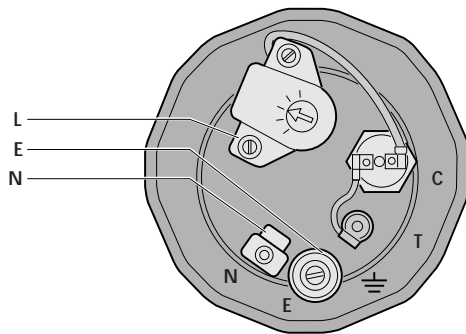

Fig. 13
Install a separate electrical supply to the immersion heater in accordance with the current IEE wiring regulations (BS 7671). The immersion heater must be wired in 2.5 mm² heat-resisting cable from a double pole isolating switch. The circuit must be protected by a 13 amp fuse. The connection details for the immersion heater are shown in fig. 13.
- Upon completion of the commissioning procedures, set the DHW thermostat knob on the VANTAGE to setting 5-6, approx. 60 °C, and set the back up immersion heater (fig. 13) thermostat to 60 °C.